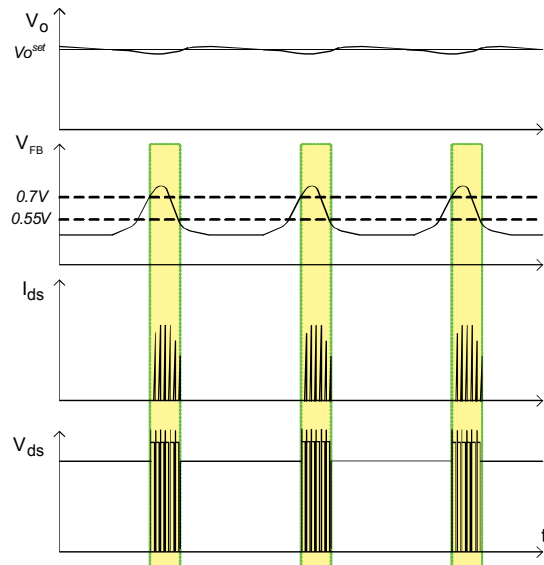

**Figure 19. Internal Soft-Start**
**5. Soft-Start:** The FPS has an internal soft-start circuit that slowly increases the feedback voltage, together with the SenseFET current, right after it starts up. The typical soft-start time is 15ms, as shown in Figure 19, where progressive increment of the SenseFET current is allowed during the start-up phase. Soft-start circuit progressively increases current limits to establish proper working conditions for transformers, inductors, capacitors, and switching device. It also helps prevent transformer saturation and reduces the stress on the secondary diode.